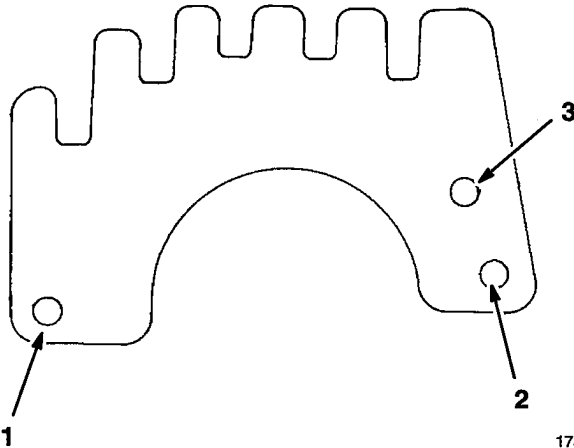

Figure 3
5. Using wear plate as a template, locate and mark two mounting holes, using front hole and lower rear hole (Fig. 3).